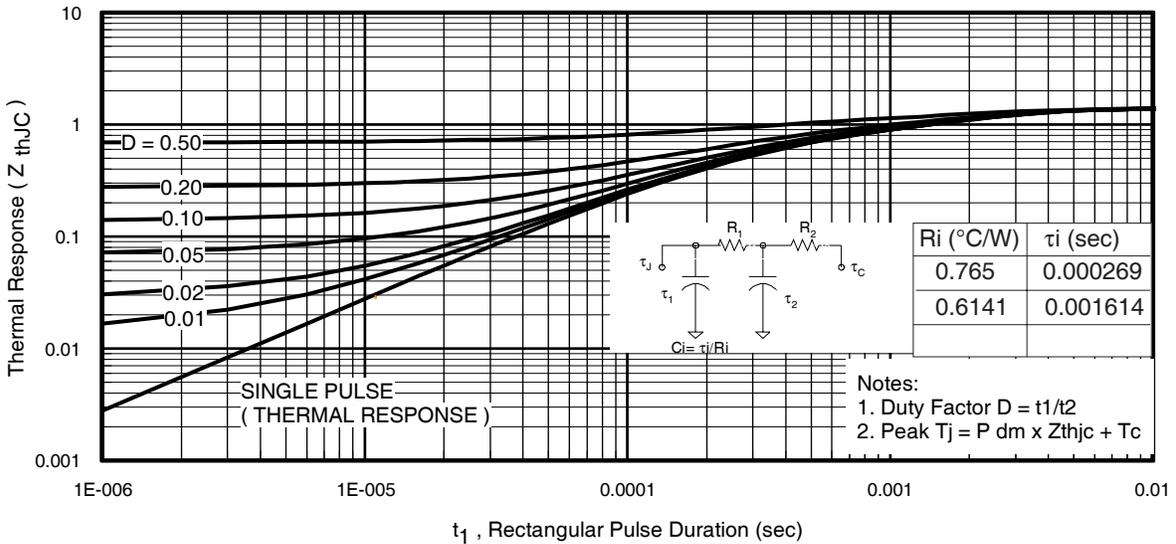
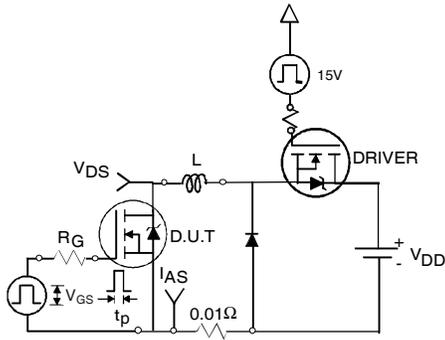

Fig 11. Maximum Effective Transient Thermal Impedance, Junction-to-Case
Fig 12a. Unclamped Inductive Test Circuit
- ① Repetitive rating; pulse width limited by max. junction temperature. (See fig. 11).
- ② Limited by T_{Jmax} , starting $T_J = 25^\circ\text{C}$, $L = 0.089\text{mH}$, $R_G = 25\Omega$, $I_{AS} = 36A$, $V_{GS} = 10V$. Part not recommended for use above this value.
- ③ Pulse width $\leq 1.0\text{ms}$; duty cycle $\leq 2\%$.
- ④ $C_{oss\ eff.}$ is a fixed capacitance that gives the same charging time as C_{oss} while V_{DS} is rising from 0 to 80% V_{DSS} .
- ⑤ Limited by T_{Jmax} , see Fig.12a, 12b, 15, 16 for typical repetitive avalanche performance.
- ⑥ This value determined from sample failure population, starting $T_J = 25^\circ\text{C}$, $L = 0.089\text{mH}$, $R_G = 25\Omega$, $I_{AS} = 36A$, $V_{GS} = 10V$.
- ⑦ When mounted on 1" square PCB (FR-4 or G-10 Material). For recommended footprint and soldering techniques refer to application note #AN-994.
- ⑧ R_G is measured at T_J approximately 90°C .
3. Equation below based on circuit and waveforms shown in Figures 12a, 12b.
$Z_{thJC}(D, t_{av})$ = Transient thermal resistance, see figure 11)